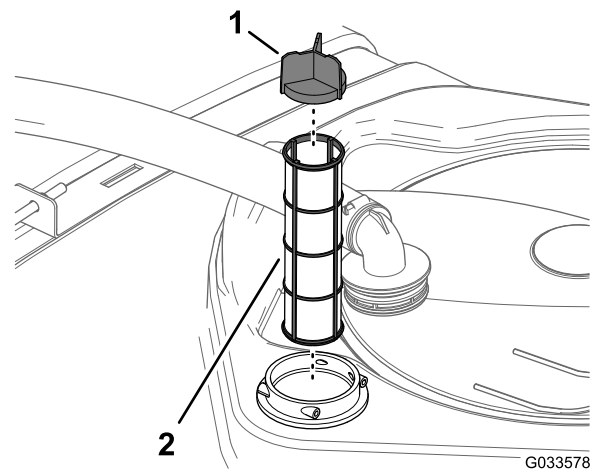

Figure 146
4. Remove the old suction filter from the filter housing in the tank (Figure 146).